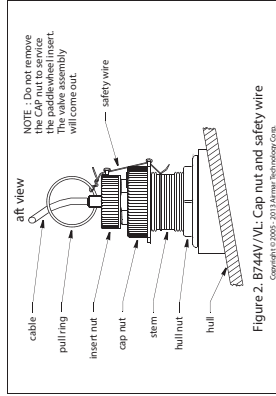

Figure 2. B744V/VL Cap nut and safety wire
Being sure the valve assembly is seated firmly within the housing, carefully screw the CAP nut in place (Figure 2). Hand-tighten only. Do not over tighten.
3. Attach the safety wire to prevent the insert from backing out in the unlikely event that the cap nut and/or insert nut falls or is screwed on incorrectly. Wrap one end of the safety wire tightly around the stem of the housing and twist it together with the long end (Figure 2). Keeping the wire taut throughout, lead the wire straight up and through one eye in the CAP nut. Thread the wire through the eye a second time. Lead the wire in a counterclockwise direction and thread it through the eye in the INSERT nut. Thread the wire through that eye a second time. Loop the wire through the pulling ring and twist the wire securely to itself.